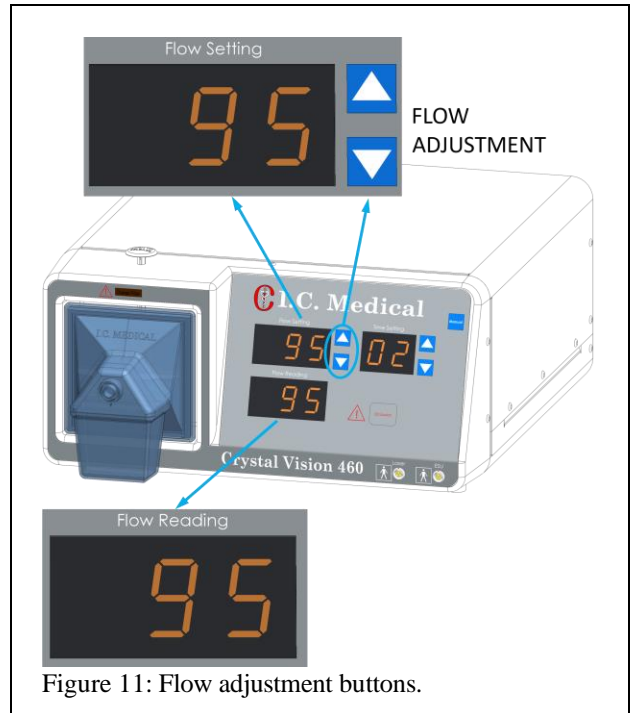

Figure 11: Flow adjustment buttons.
6. The FLOW SETTING buttons (Up and Down arrows), (Figure 11), adjusts the desired Flow level on the Flow Setting display. The Flow Reading digital meter indicates the actual Flow through the unit. Some RF noise may cause the Flow Set and Flow Reading to flicker; however, it will not affect the actual flow or the functionality of the CRYSTAL VISION®.